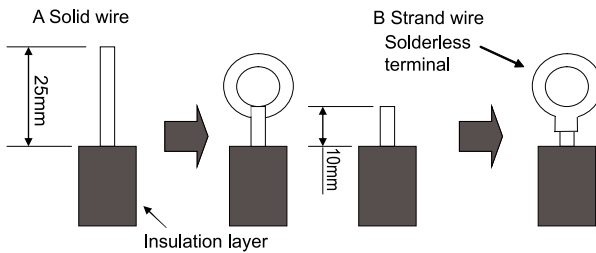

Fig.36
(1). For solid core wiring (Fig.36)
(2). For strand wiring ( Fig.36)